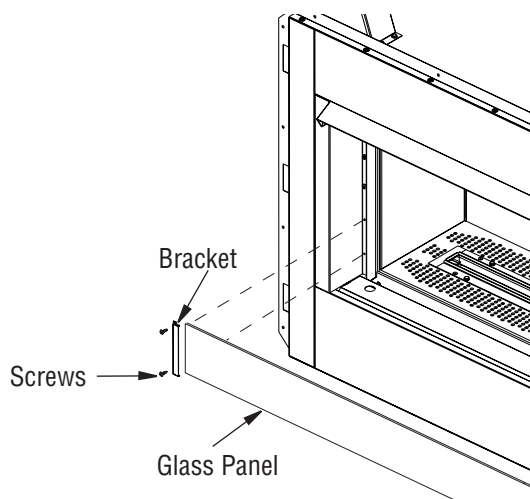

Figure 25a - Installing Draft Shield Kit
The draft shield kit should be installed after the fireplace is completely framed and finished. The brackets are attached to the front side face of the fireplace using two screws as shown in Figure 25a. Position the glass panel in the bracket so that it is securely in place. The glass panel can be placed in two different height locations.
3. Remove glass panel if installed (Figure 25a, page 13).